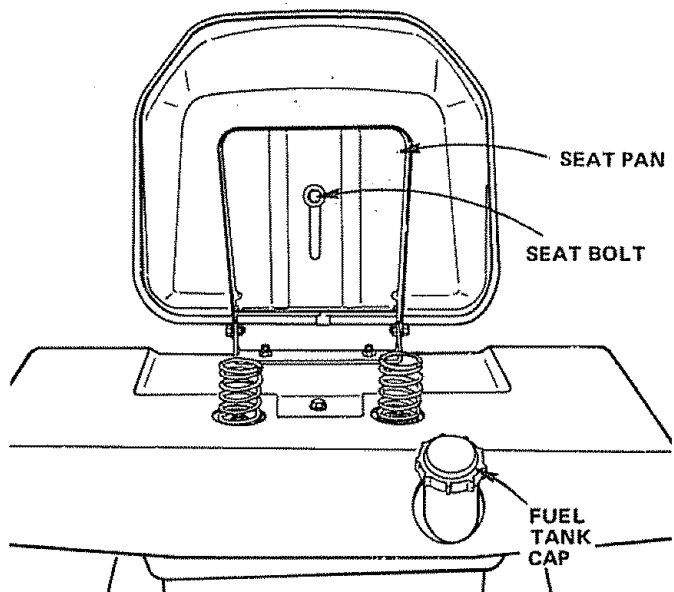

FIGURE 6
8. To adjust seat position, pivot seat forward. Use 3/4" wrench to loosen Seat Bolt and slide seat to desired position. Make sure seat sets straight on Seat Pan and tighten Seat Bolt securely (Fig. 6).
2. Fill Fuel Tank (Fig. 6). Use fresh, clean, unleaded automotive gasoline. (Leaded "Regular" grade gasoline is an acceptable substitute, but will increase carbon and lead oxide deposits and reduce valve life). Capacity is 3 - 1/2 gallons.